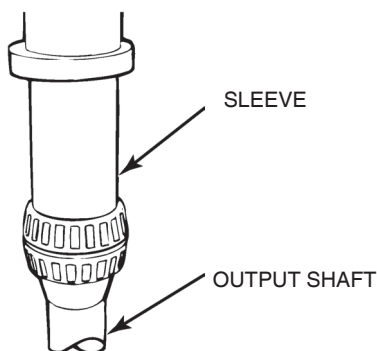

Figure 5.89
2. If the bearing cones were removed from the output shaft, install new bearing cones. Place both cones back-to-back onto the output shaft. Use a press and sleeve to install both cones. Apply pressure until the inner cone seats onto the shoulder of the output shaft. Figure 5.89.